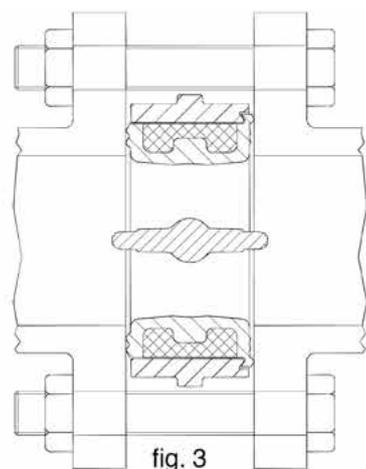

fig. 3
- support the butterfly by means of two tie-rods which, going through the holes on the flanges and the slots on the valve body, will allow a first generic centering between the flanges. Slightly close the 4 tie-rods (opposite to one another) until the valve is slightly fixed and then center the valve body carefully with respect to the pipeline flanges (a mistake of +- 1mm on a DN 50 and proportionally of +-5mm on a DN 300 is more than acceptable). Close the 4 tie-rods until the valve is fully blocked, open the butterfly completely (fig 3) and then insert and close all other bolts required by the flanges.